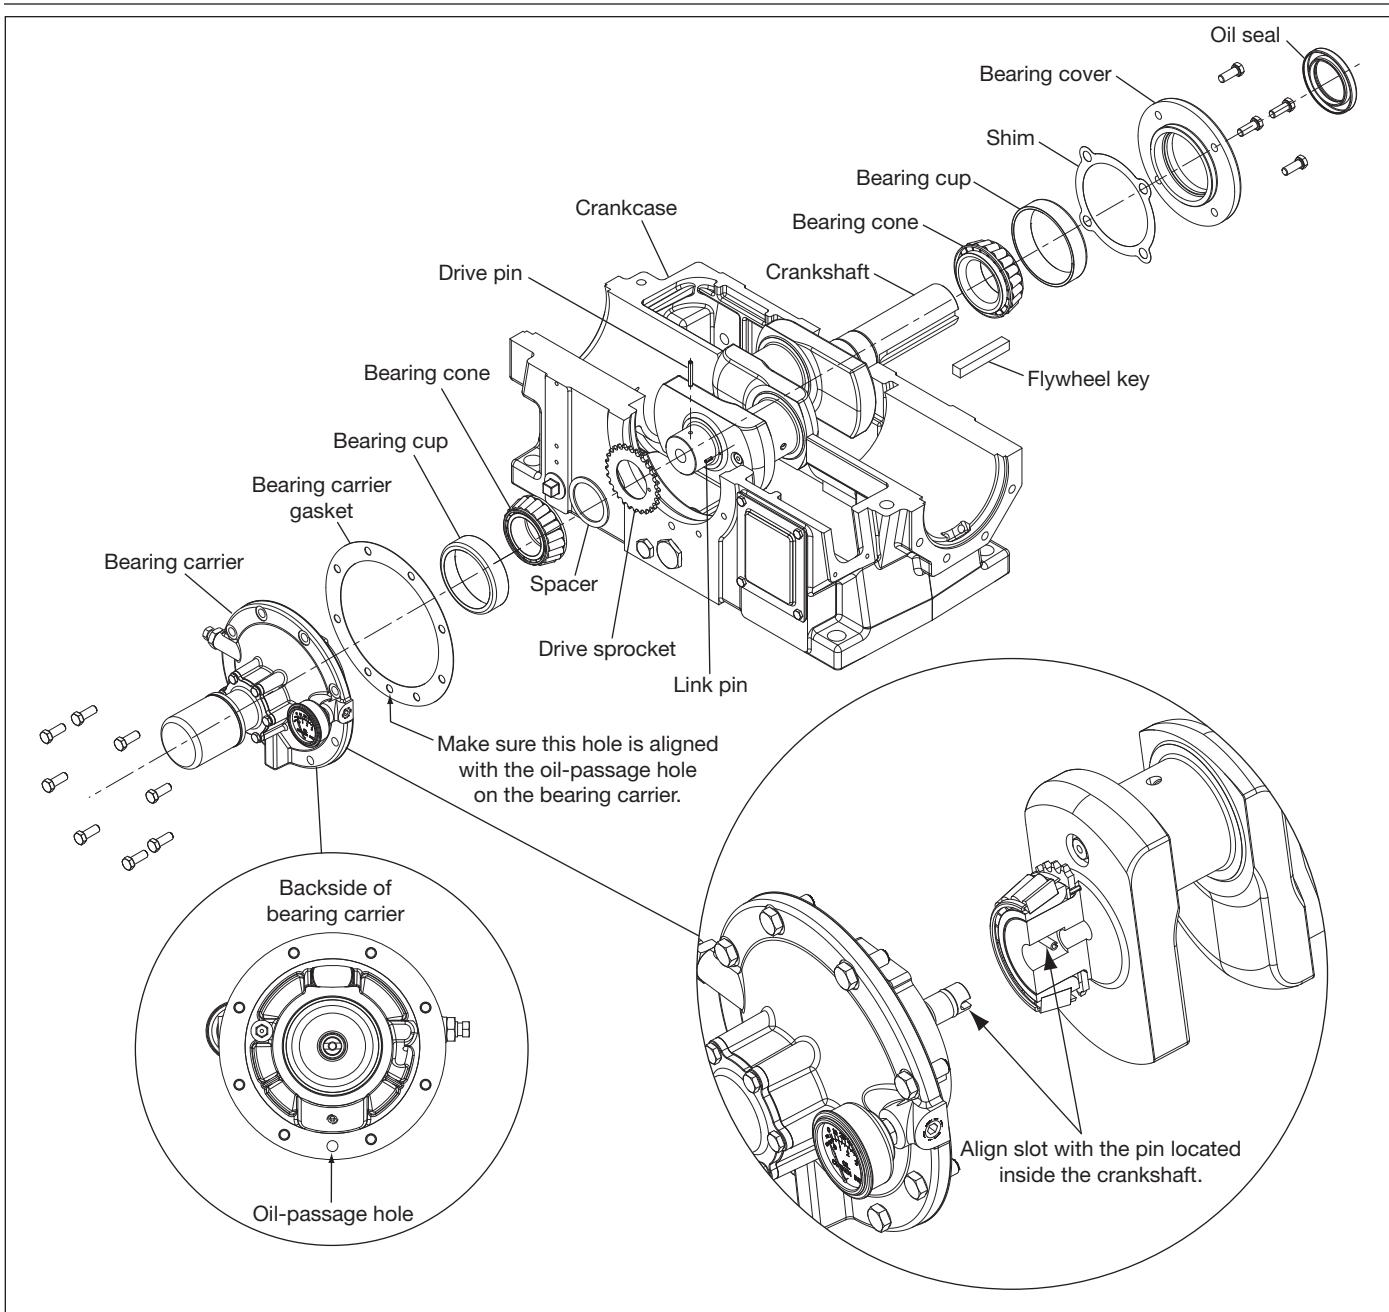

Figure 5.7A
3. Remove the bearing carrier and crankshaft from the crankcase (see figure 5.7A for details). If corrosion or pitting is present, the roller bearings should be replaced. When replacing the roller bearings, always replace the entire bearing and not just the cup or the cone. Purchasing extra shims is recommended as well. For crankcase assembly details, refer to Appendix D.
6. Before installing the bearing carrier, **make sure the slot at the end of the oil pump shaft is aligned with the pin located at the end of the crankshaft.** Alignment should be either twelve and six o'clock or nine and three o'clock. Make sure the gasket for the bearing carrier is installed correctly. An improperly installed gasket will block the oil passage (see figure 5.7A).